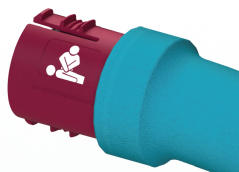

Figure 21 – CPR connector
1. Depress the tabs on both sides of the CPR connector. Pull straight out to disconnect the CPR from the pump (Figure 21).